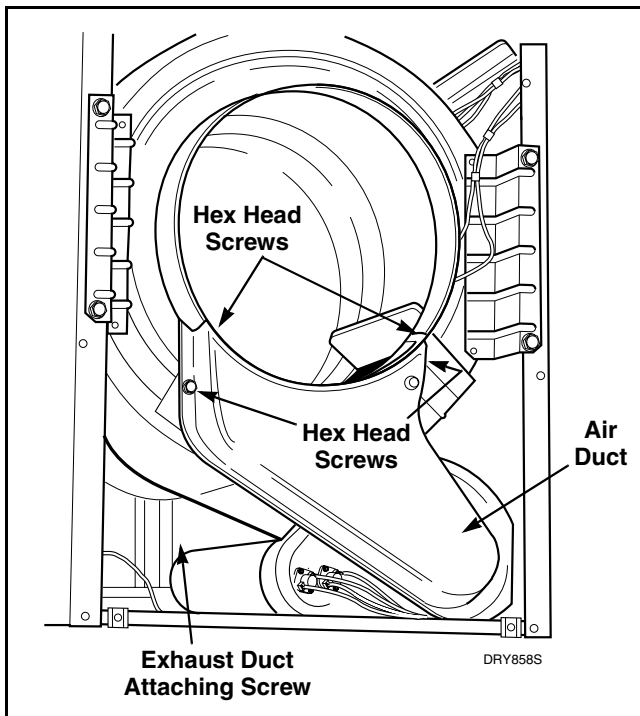

Figure 19
- c. Remove hex head screws holding air duct to front bulkhead and lift off. Refer to *Figure 19*.
- c. Remove one hex head screw holding bracket on exhaust duct to rear of cabinet. Refer to *Figure 19*.